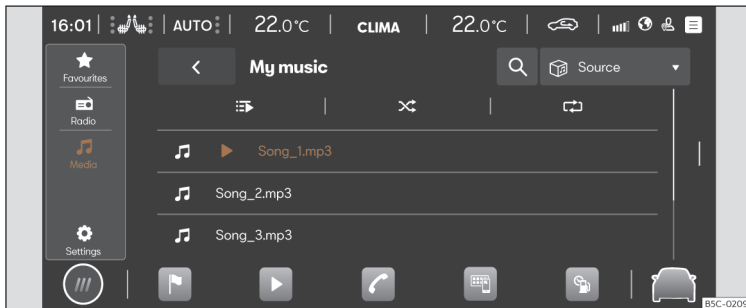

Fig. 167 Schematic diagram: Media view
- Press **HOME** > ► > 🎵 >>> Fig. 167.